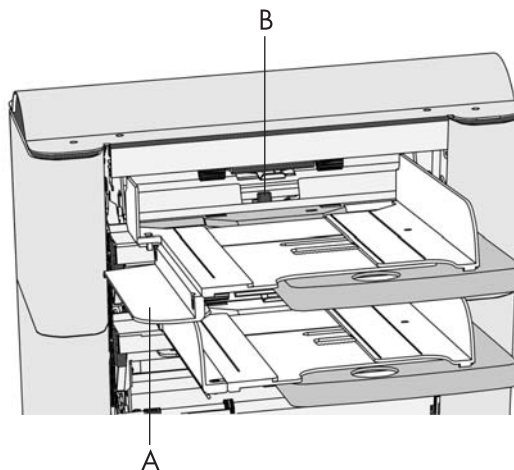

Fig. 27
- turn the left side guide A downwards (Fig. 27).